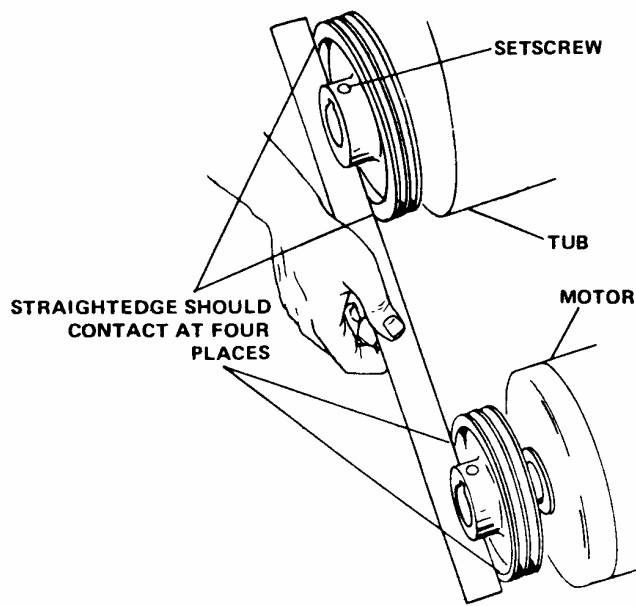

Figure 4-4. Checking Pulley Alignment
9. Using a straight edge or ruler, adjust the pulleys so they are exactly in line (see fig. 4-4) then tighten setscrews.
9. Using a straightedge or ruler, adjust the pulleys so they are exactly in line (see fig. 4-4) then tighten setscrews.
9. Install pulley on eccentric shaft and line up pulleys as shown in fig. 4-4. Tighten setscrew.